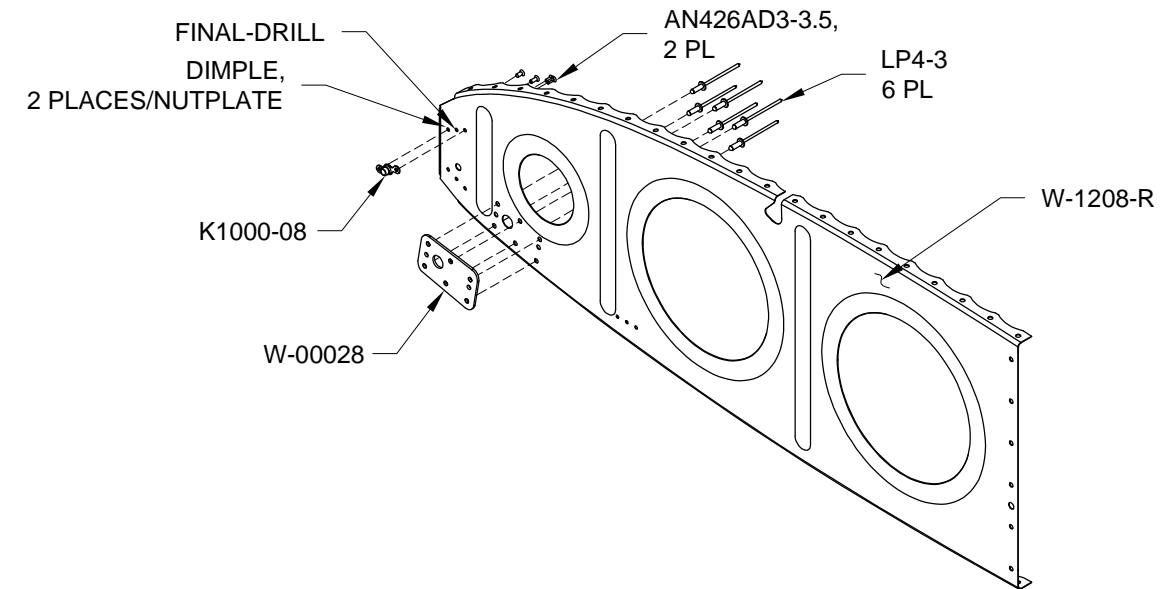

FIGURE 4: ADDING THE NUTPLATE TO FWD AND AFT TRIMMED NOSE RIBS
Step 9: Select one each of the W-1208-L Nose Ribs and W-1208-R Nose Ribs with the aft and forward trimmed flanges. Dimple the rivet hole locations as shown in Figure 4. Final drill #19 the center nutplate hole as shown in Figure 4. Dimple then install the nutplate on each nose rib as shown in Figure 4.
Cleco and rivet the W-00028 Doubler Plate to the W-1208-L Nose Rib and W-1208-R Nose Rib with the hardware called out in Figure 4.